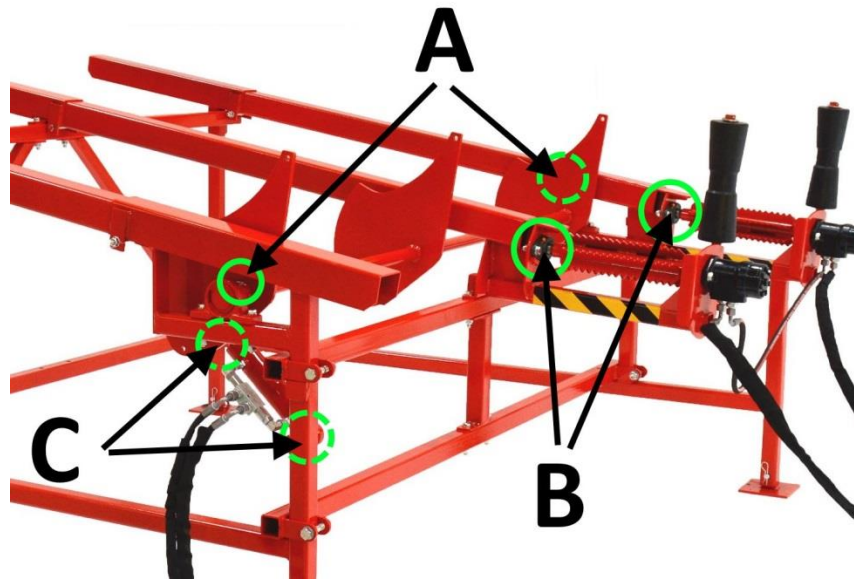

Figure 6
1. In-feed conveyor bearings (B) 2 pcs, **Figure 6:B** (every 200 hours)
2. Feeder bearings (A) 2 pcs, **Figure 6:A** (every 200 hours)
3. Feeder cylinder nipples 2 pcs, **Figure 6:C** (every 50 hours)